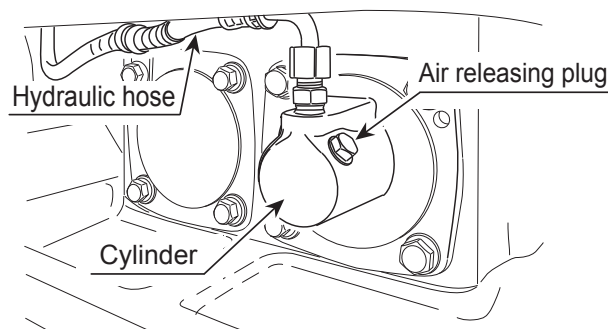

Figure 32. Removing Hydraulic Hose
3. Remove the hydraulic hose connected to the cylinder on the vibrator side (Figure 32).
9. Remove the air releasing plug of vibrator cylinder. Oil will then come out from the air releasing plug. After air bubbles stop coming out, reattach the plug. Tighten securely (Figure 32).